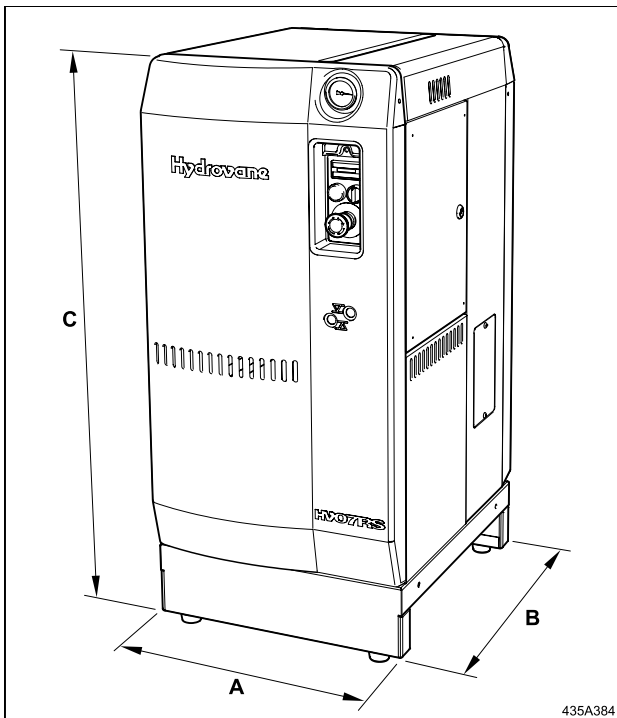

Fig. 4 - Dimensions
4.4 Weights and Dimensions Fig. 4